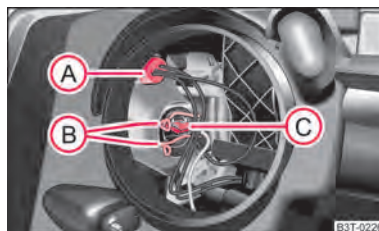

Fig. 204 Removing the bulbs for the parking and main beam light
- Remove the socket **A** ⇒ fig. 204.
- Press the sprung wire clamps **B** ⇒ fig. 204 together and hang them to the side.
- Remove the socket **C** ⇒ fig. 204.